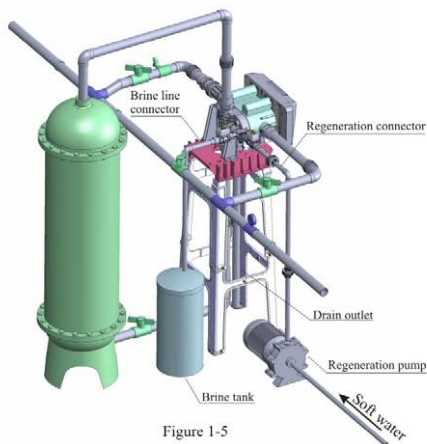

Figure 1-5
④Connect brine tube and regeneration pump tube
- As Figure 1-5 shows, use UPVC (DN20) to connect brine valve with brine line connector of control valve.
- As Figure 1-5 shows, use UPVC (DN20) to connect the outlet of regeneration pump with the regeneration connector ball valve, then connect the inlet of regeneration pump with softened water.